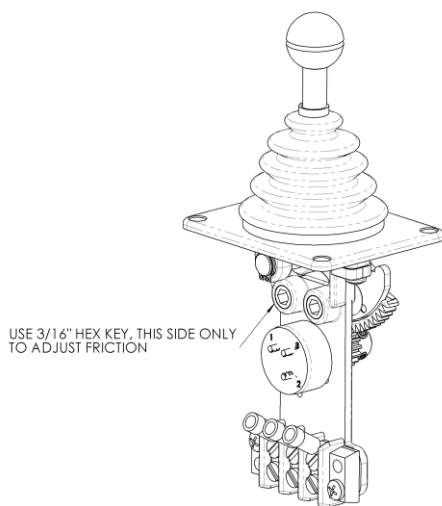

Figure 13: Adjusting friction lock, '-W' models.
2. Locate the set screw in the left most position when viewed from the head of the screw, refer to Figure 13.